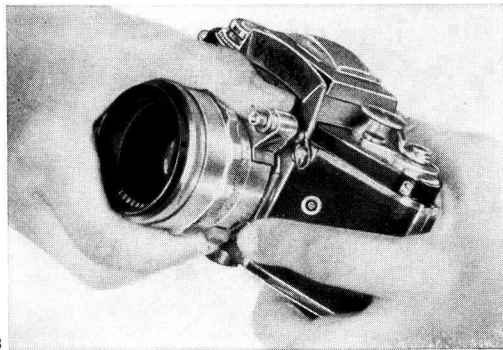

Fig. 13
The lenses (25) of the EXAKTA VX are interchangeable. The camera should always be kept with the lens inserted or with a protective cover, which is put into the bayonet mount, to protect it from dust. The front of the lens should be protected by a lens cover which, of course, must be taken off before picture taking. When removing the lens press the bayonet catch (27) towards the lens (Fig. 13). Turn the whole lens to the left (frontal views). Then two red marks (21 and 26) are opposite each other, one on camera body, the other on the lens.